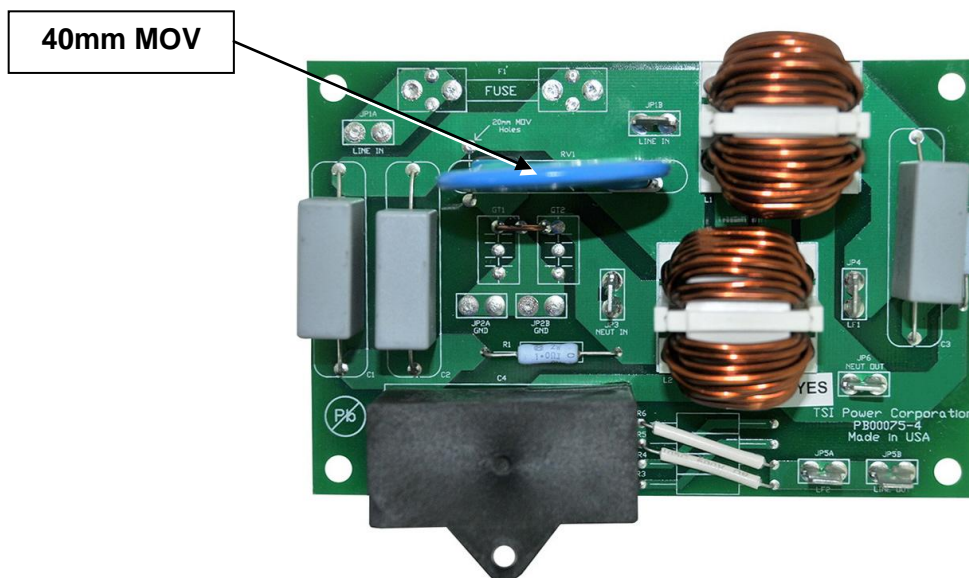

Figure 11: AC Surge Protection Circuit Board
2.6 AC SURGE PROTECTION CIRCUIT BOARD – The XUPS-600/1000-6969 is protected against spurious AC surge currents by a proprietary circuit board. This board uses a 40mm MOV to provide protection and assure the continued function of the XUPS. See Figure 11.